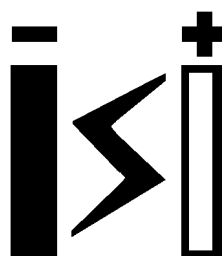

Fig 11.13 Charge Error icon
- 19** If the charge error icon (Fig 11.13) is displayed, refer to Table 11.13 for possible causes of the fault and remedial action.